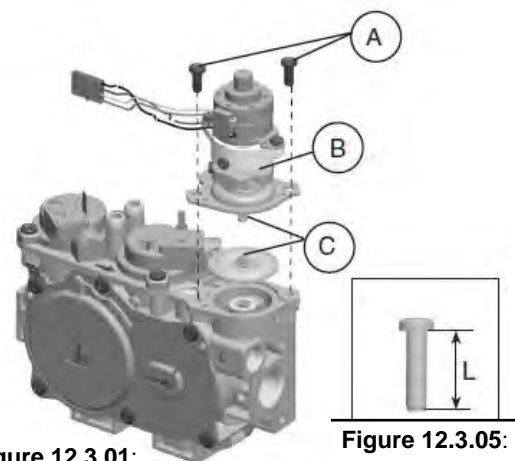

Figure 12.3.01:
- Pressure regulator assembly (E)
- Two (2) screws (F)
- Identification label (G)
2. See **Figure 12.3.01**. Using a Torx T20, or slotted screwdriver, remove and discard the two (2) pressure regulator mounting screws (A), pressure regulator tower (B), and the **spring and diaphragm assembly (C)**, (If applicable).